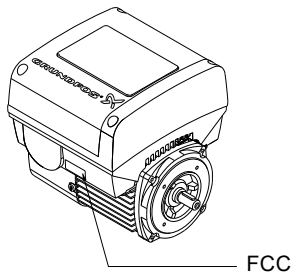

Fig. 77 FCC label
- 10. If the CIM module is supplied with an FCC label, then place this on the terminal box. See fig. 77.